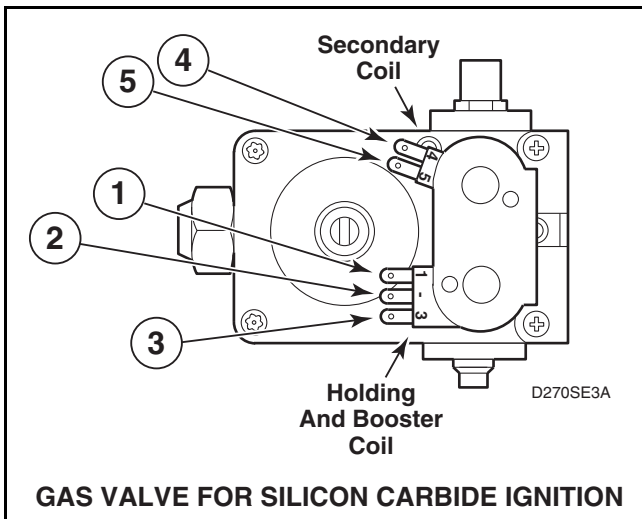

Figure 36
- d. Remove valve wire harness disconnect block from the holding and booster coil. Refer to *Figure 36*.
- e. Set test meter to read Ohms and put meter probes to terminals shown in *Figure 36*, and in the following chart.